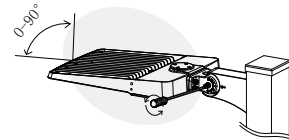

Figure 2-4
- Step4: If the installation angle of the fixture needs to be adjusted, loosen the screws of the bracket and fix them again after finished adjustment, Figure 2-4;